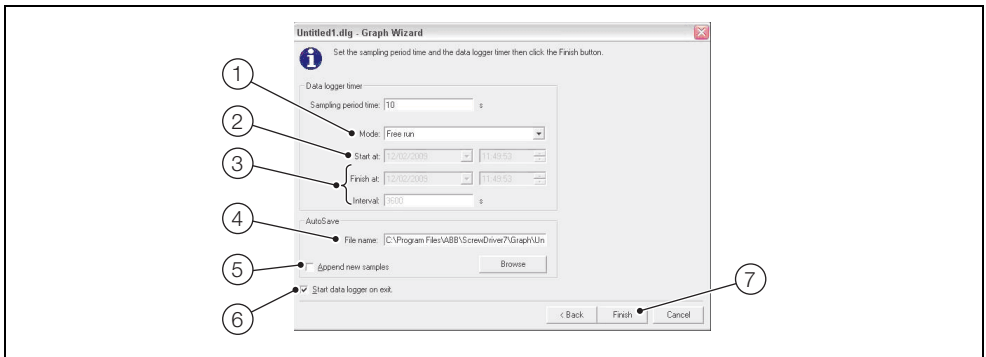

Fig. 7.3 Data Logger Setup Dialog
1. Click (A) (📁) to select the list file required from the 'ScrewDriver 7 File Browser' window.
2. Select the required items to log and graph in panel (B) and click ▶ to add them to the list in panel (C). To remove an item from the list, select the item from panel C and click ◀.
3. When the list is complete click . The Data Logger Setup dialog (Fig. 7.3) is displayed.
Referring to Fig. 7.3: